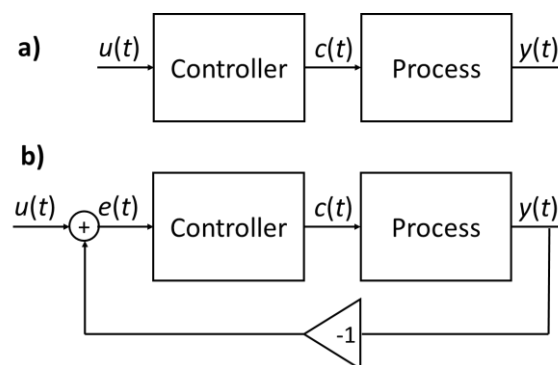

Figure 2. Open-loop a) and closed-loop b) control topologies.
Mechatronic machines regularly require a set of control systems. Control systems can be cascaded on different levels. High level controls take care of machine functions, *e.g.* accelerating a machine/vehicle, lifting a component, opening a gate *etc.* Lower-level controls take care of machine components or subcomponents *e.g.* open a valve, increase a current, decrease a pressure *etc.* *Open-loop control* refers to a control system that is not explicitly using an output measurement to correct the control action. *Closed-loop control* uses a feedback measurement to adjust the control actions in such a way that the control error is minimised (Figure 2).
1. In Figure 2 b), the controller is realised as a PID controller. The controller outputs the control signal $c(t)$ based on the error signal $e(t)$ magnitude (proportional control action), its accumulation (integral action) and its instantaneous change (derivative action). Analyse a PID controller in Matlab/Simulink: